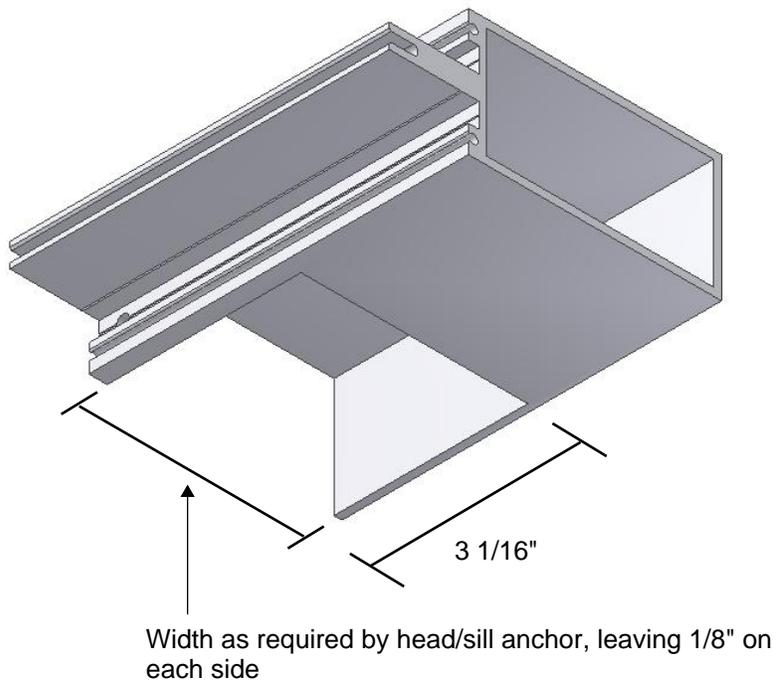

Figure 5: Notch the sills, shown, and heads, similar, to fit in the anchor clips.
- The notch must not damage the vertical walls of the tube, but should remove the top or bottom of the tube from wall to wall, to a depth of 3 1/16" from the end of the sill or head as shown in Figure 5.